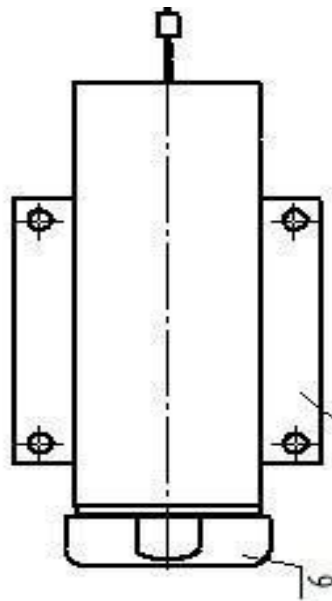
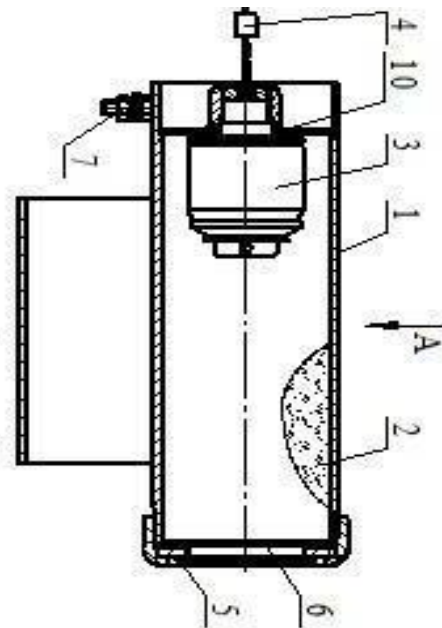

Figure 1
Figure 2
4.1 MPH (Figure 1. and Figure 2.) consists of the pressure body 1, which includes: extinguishing powder (HP) 2 and cold gas generator (GSP) 3 with electric fuse 4 . On the other side of the hood is the atomizer insert 5 , as well as the outlet, which closes with a membrane 6. The module is equipped with a grounding terminal 7. The upper part of the MPH is equipped with a holder 8. for ceiling mounting and 9. For wall mounting.
4.3 After receipt of an electrical impulse to the electrical output switch 4GSP 3 (Figure 1,2), the gas generator is activated and generates a cold gas that puts the interior of the container under pressure. As soon as the necessary pressure is present, the membrane opens 6 and the extinguishing powder comes out of the module through the atomizer 6.
6.2 Suspension 8 can be mounted under the ceiling (Figure 1) or suspension 9 (Figure 2) can be attached to the wall. Please mark the places for attaching the suspension as on the (picture 3) and on the wall acc. (Figure 4).